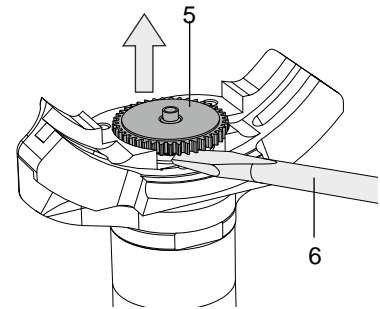

Fig. 8.3 – Removing the pinion
- 5) Remove the pinion (5), see Fig. 8.3, if necessary use a screwdriver (6) for this purpose.